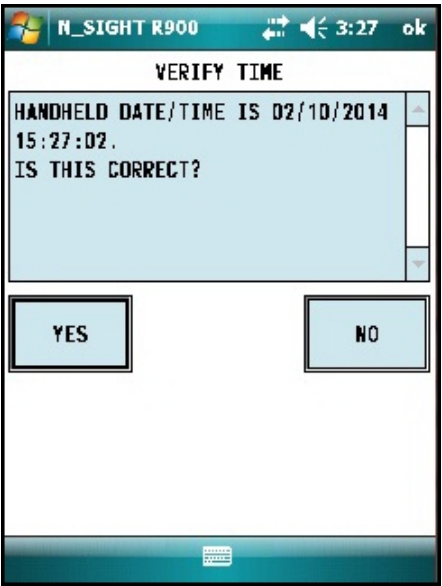

Figure 50 – HHU Time Confirmation
1. Verify the time is correct, and click **YES**. See Figure 50.